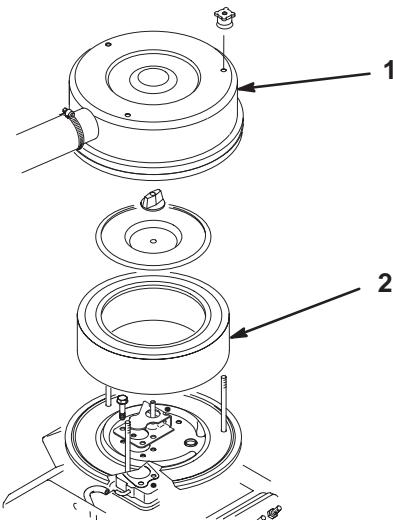

Figure 18
- Remove the knobs and air cleaner cover (Fig. 18).